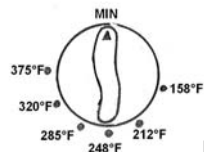

Fig. 5
- Select the desired temperature on the temperature setting dial. (Fig. 5)